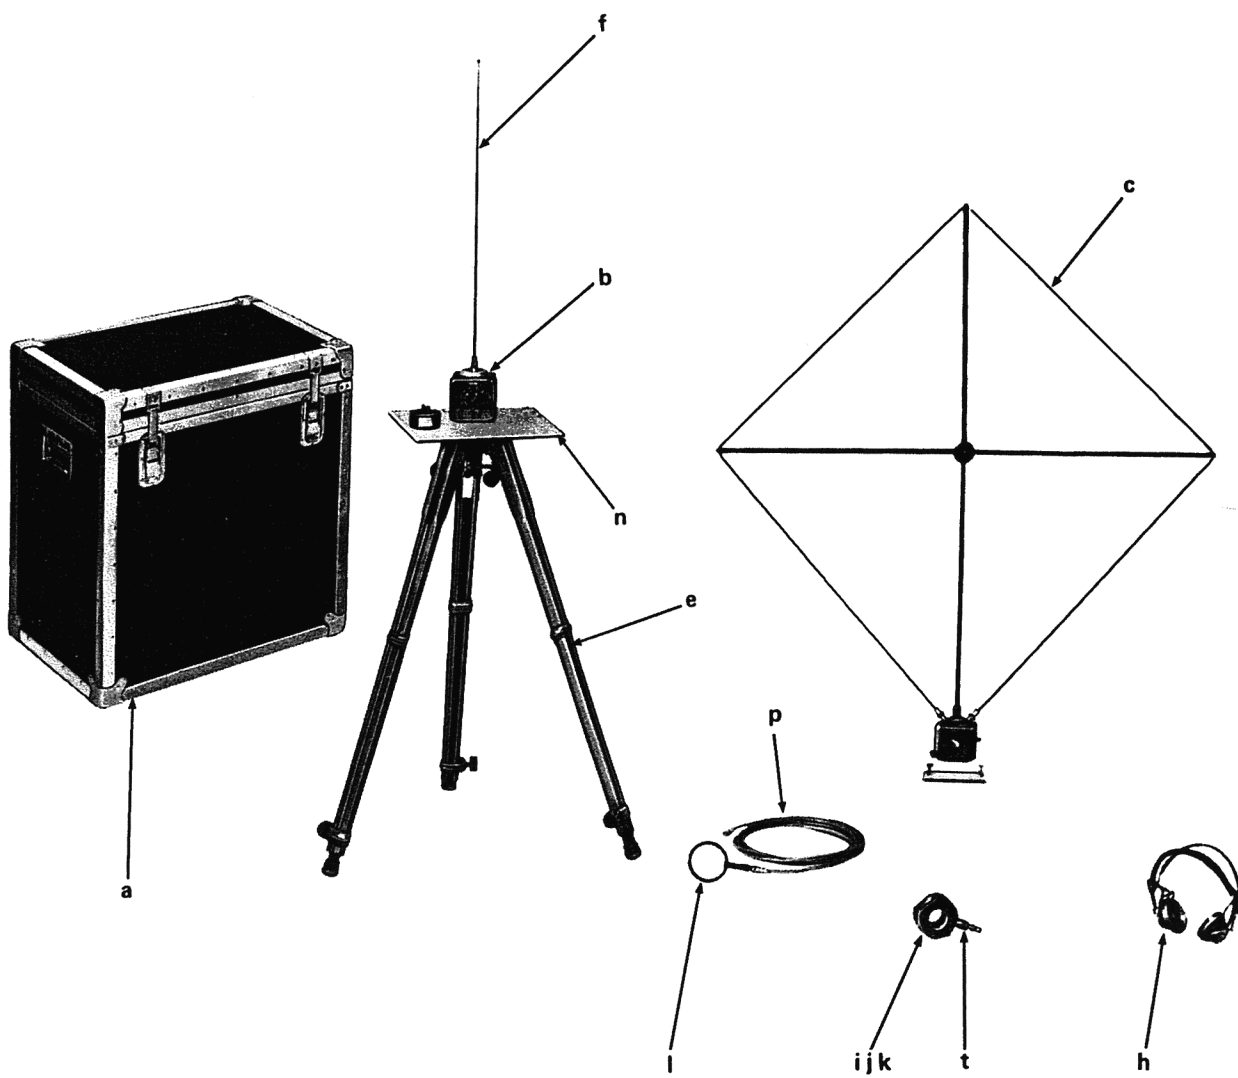

Figure 1-2. Optional Accessories
* Indicates items displayed in Figure 1-2.